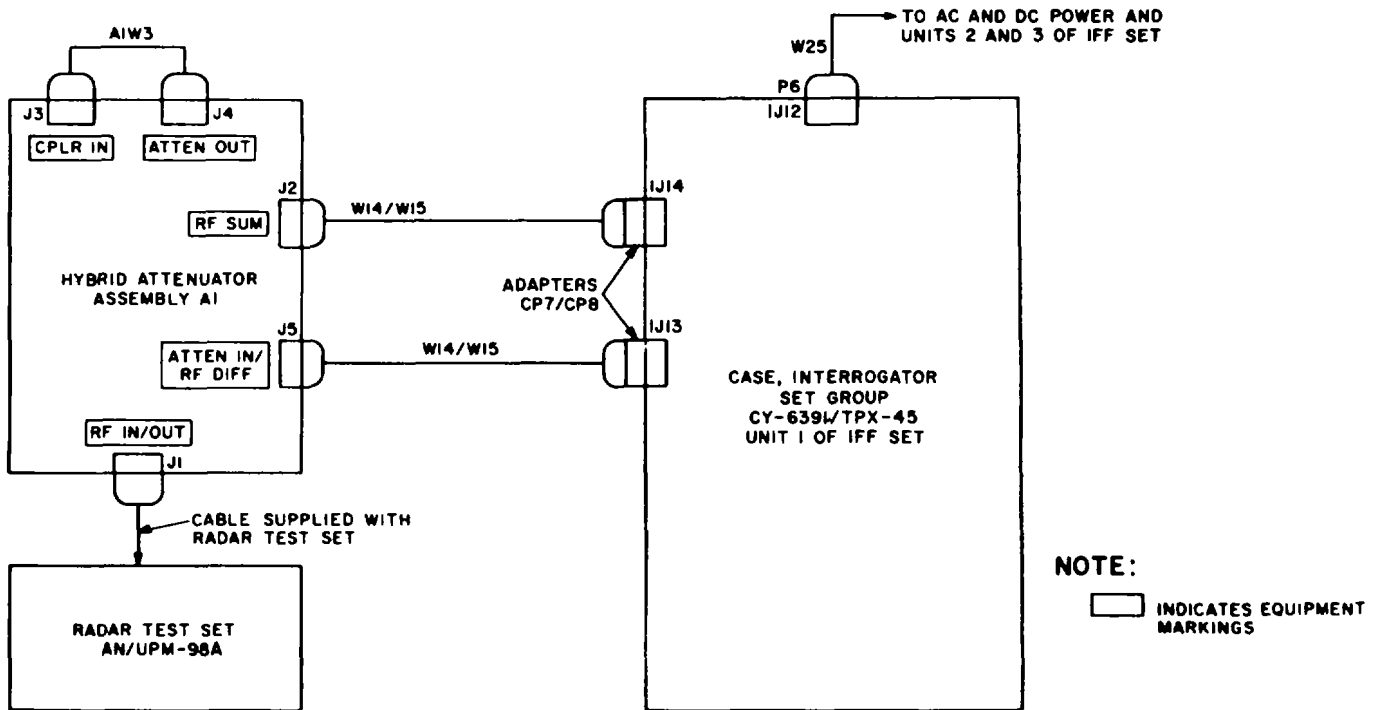

Figure 3-4. Typical hybrid attenuator receiver and transmitter test connections.
(1) The test connections between the rf set and the hybrid attenuator, shown in figure 3-4, are typical for some of the receiver and transmitter tests on the rf set. Consult the individual test procedure in the TM 11-5895-689-35 for possible deviations in the test connections and for prescribed settings of the ATTENUATOR control.